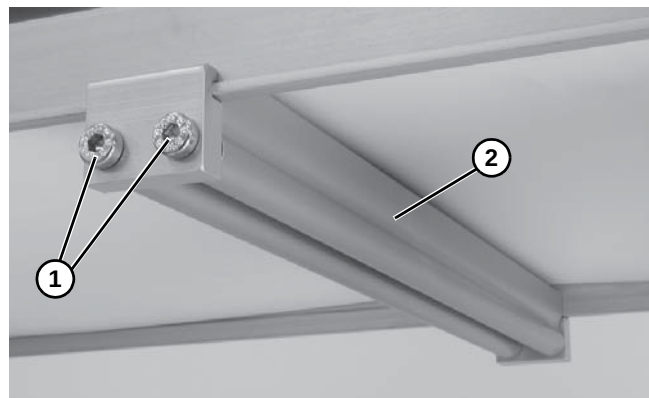

Figure 14
3. Install roller assembly as shown (**Figure 14, item 1**). Tighten screws (**Figure 14, item 2**) to 60 in-lb (7 Nm).